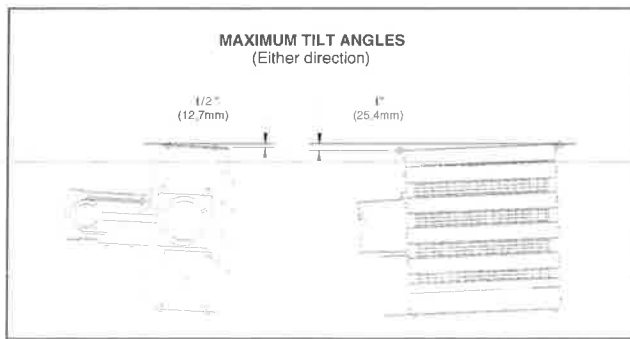

FIGURE 2
- The heater must be permanently mounted in a level, upright position for operation. See Figures 2, 3, and 4 for maximum tilt angles, installation clearances, and physical dimensions. For ease of installation, a variety of mounting kits are available from the factory.